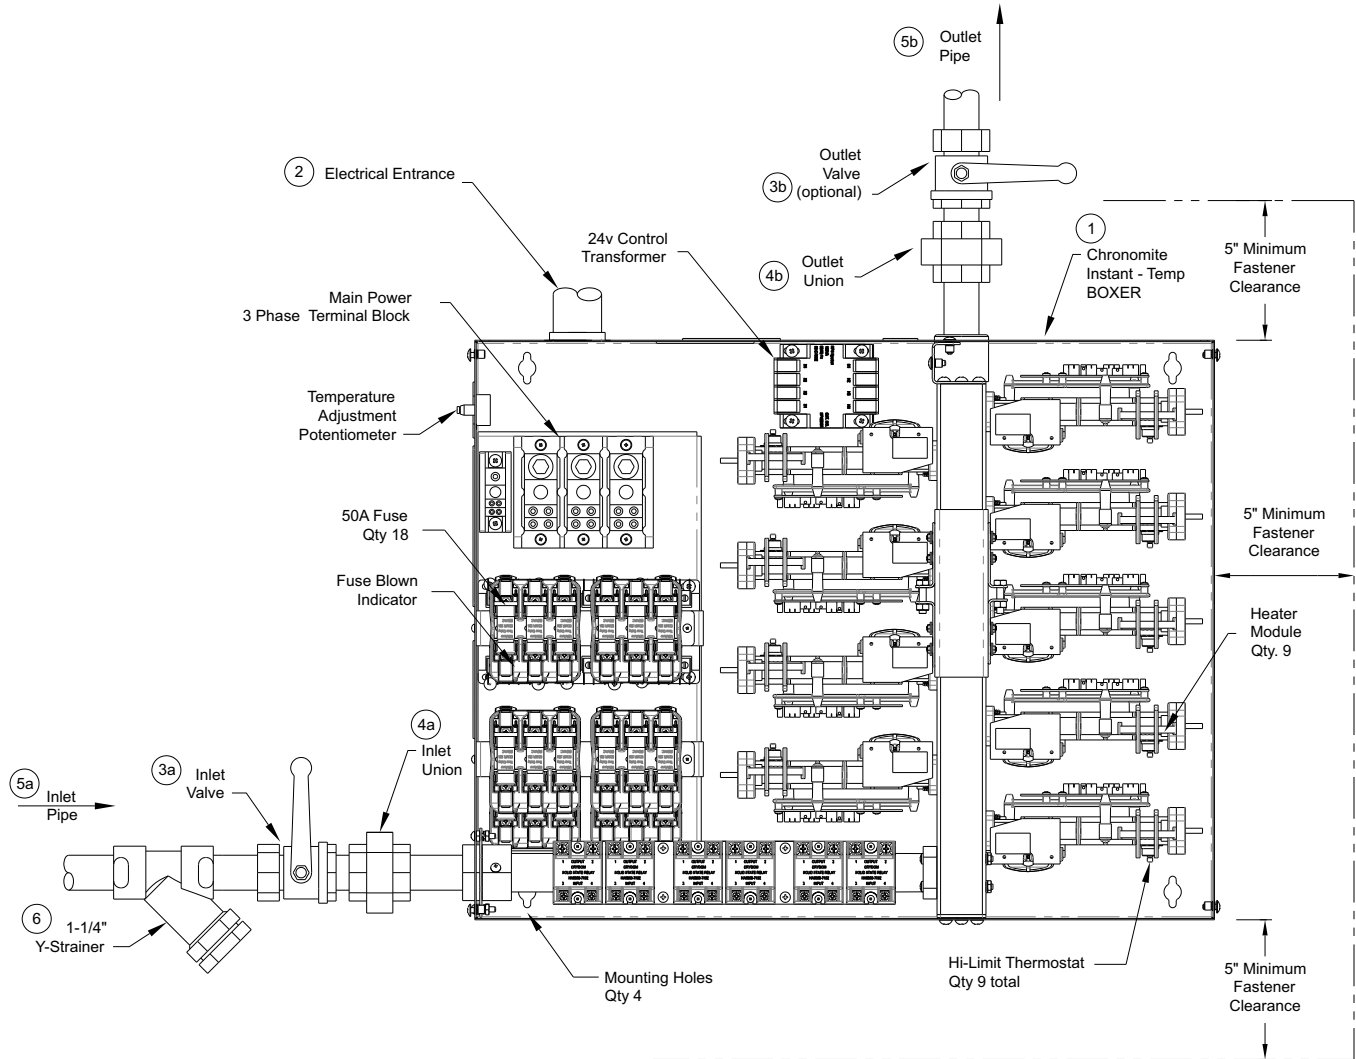

FIGURE 1 - HEATER INSTALLATION
2. Remove heater cover. Mount unit horizontally flush against the wall (See Fig. 1). Inlet Water connections will be either on right hand side or left hand side only. If water connections are at top or bottom, heater is not in correct position. Mount with four screws through the mounting holes located on the base plate housing using molly anchors or fasteners. **CAUTION:** Heating elements may burn out if unit is not mounted with heater modules horizontally.
3. Insure placement of heater allows 5" clearance for screwdriver access to remaining 3 sides of heater to allow cover removal, and future servicing if needed. (See Fig. 1).
5. Connect plumbing. Use 1-1/4 inch tapered national pipe thread at cold-water inlet and hot water outlet (See Fig. 1). Use unions, Y-Strainer and valve(s) for ease of installation and possible servicing. Use Teflon tape or pipe sealing compound. **Do not apply heat to these fittings, as damage to the heater modules will occur and void warranty.** Rough out plumbing with heater in place, then remove heater during soldering of connections.